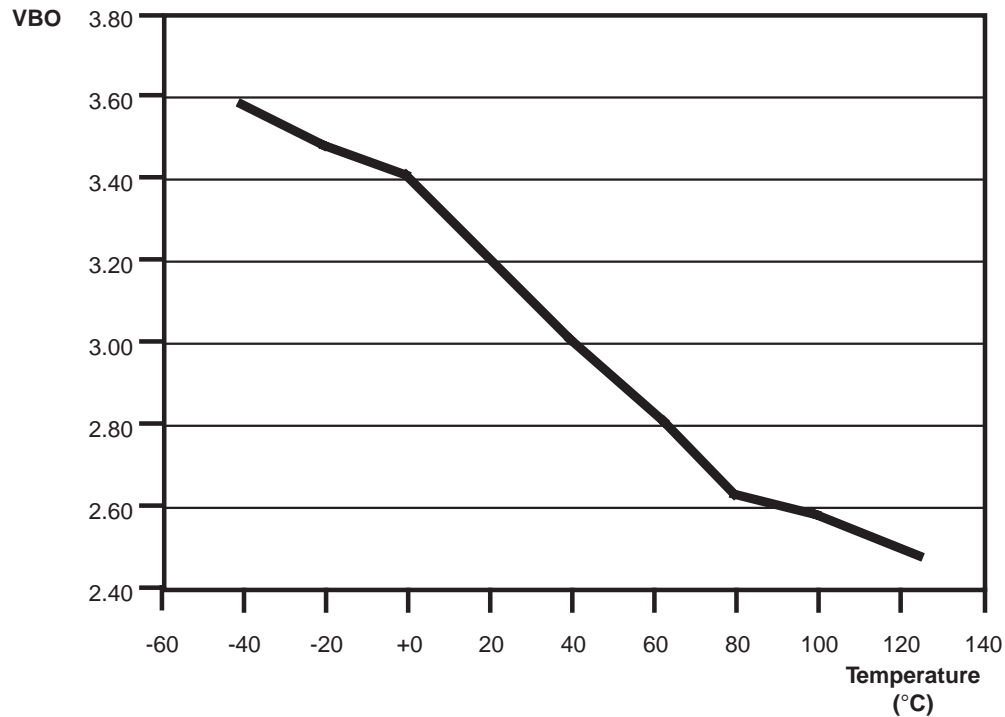

Figure 21. Voltage Sensitive Reset vs Temperature
**VCC Voltage Sensitive Reset (VSR).** Reset is globally driven if VCC is below the specified voltage (Figure 21).